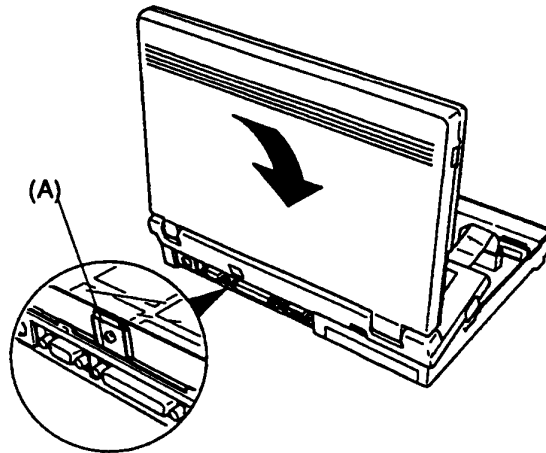

Figure 4-13 Attaching the top cover
1. Align the ground plate (A) with the notch located on the back of the top cover. Then position the top cover onto the base assembly (Figure 4-13).